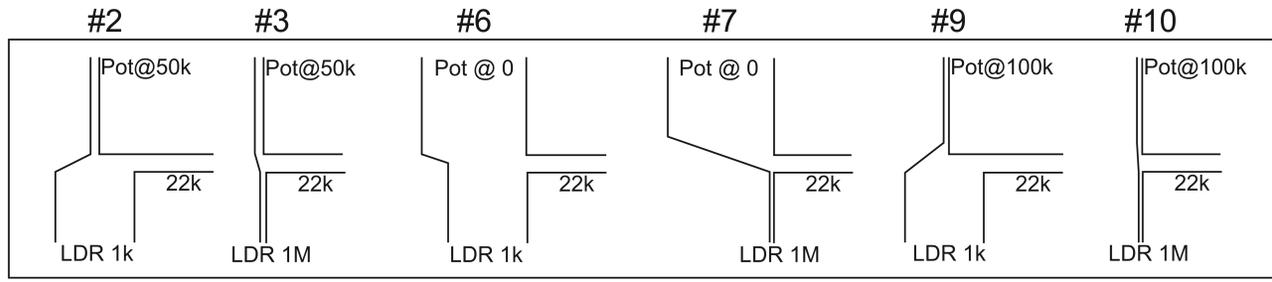

Figure A1-1
3. Refer to Figure A1-1. The TP voltage would be close to V+. In good darkness, the LDR will have over 1M ohms. It's easier for the current to move through 22,000 ohms rather than 1,000,000 ohms. They move to the transistor.